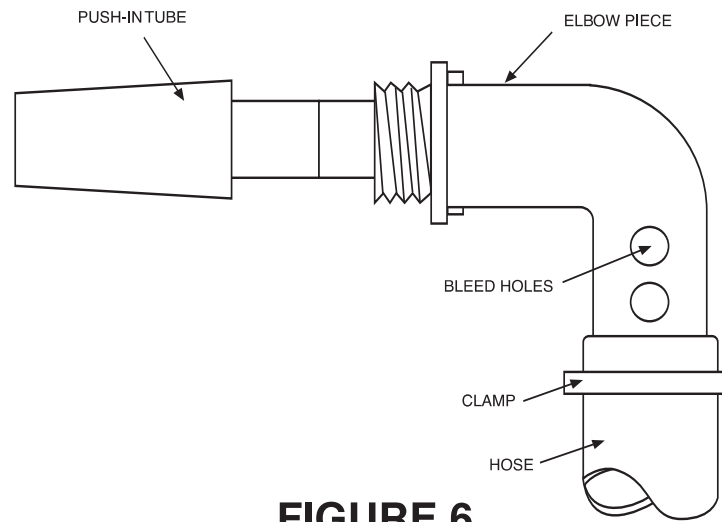

FIGURE 6
2. Refer to Figure 6. Push the small end of the Push-in Tube (14) into the threaded end of the Elbow Piece (8) until it is secure. This is your inlet adapter.
3. Refer to Figure 1. Uncoil the hose (5) and remove all twist. Using clamps (17), clamp one end of the hose to the back side of the fountainhead (1) and the other end to the inlet adapter from step 2. Cover one set of bleed holes with the hose (Fig. 6). To tighten clamp, grasp "tabs" between thumb and forefinger and squeeze. Tighten securely with a pair of pliers. To open the clamp, grip one "tab" of the clamp with pliers and twist loose.
4. Using the tie wrap (16), LOOSELY attach the anchor (6) to the hose (5). The anchor (6) should be attached to the hose (5) at a point as deep as the water plus approximately two feet. You will have to estimate what the water depth is where you want the fountain and add two feet. CAUTION: DO NOT CONSTRICT THE HOSE BY TIGHTENING THE TIE WRAP (16) TOO TIGHT.
6. Place the fountain assembly into the pool. Position the fountain in the desired location being careful not to crimp the hose (5).
Height adjustment is achieved by covering more or less of the bleed holes (Fig. 6) on your elbow piece (8) with the hose (5). The more holes covered, the higher the fountain and vice versa.